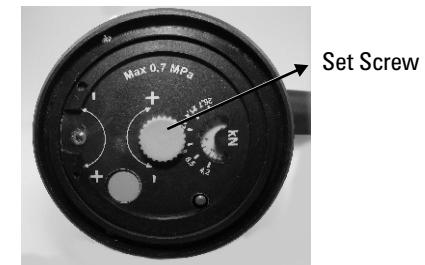

Figure 3
Do not exceed 120 PSI. Adjust the air pressure at the recommended operating pressure of 75 to 100 PSI. The pressure can be adjusted by the set screw (Fig. 3) at the bottom of the tool. The tool is set at its minimum pressure when it leaves the factory.
-The set pressure can be read from the pressure indication (Fig. 3).